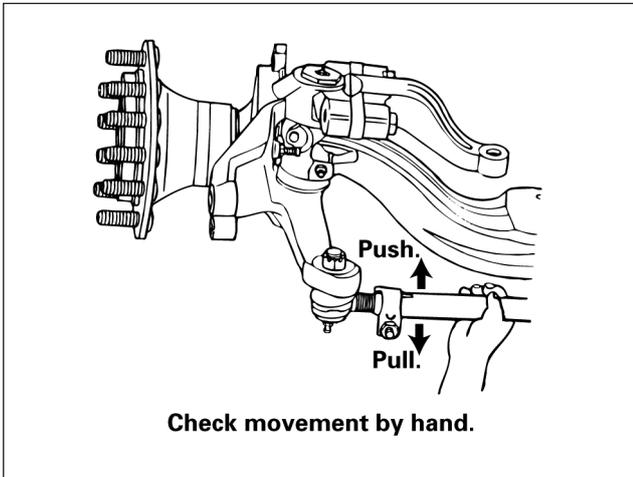

Fig. 1.11
10. Apply hand pressure of approximately 100 pounds (45 kg) in a vertical PUSH-and-PULL motion several times. Check for any movement or looseness at both tie rod ends. Fig. 1.11